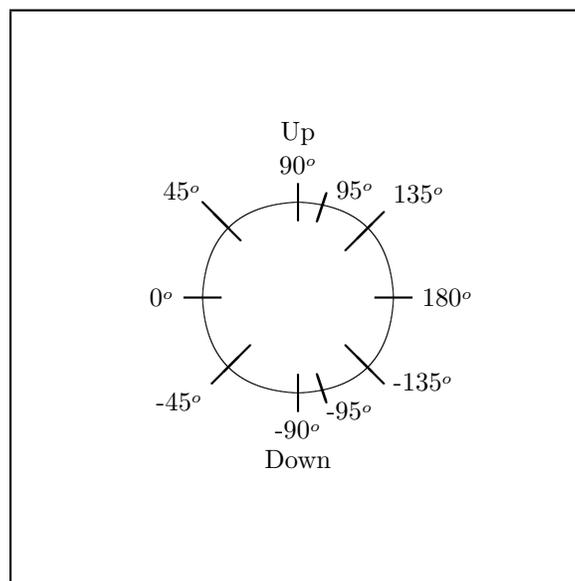

Figure 2: Pelco Tilt Display Positions[intro:pelcotiltdisplays]
- 1.2.1. In Figure 2, page 23 are the values that will appear on the screen as a camera is tilted.